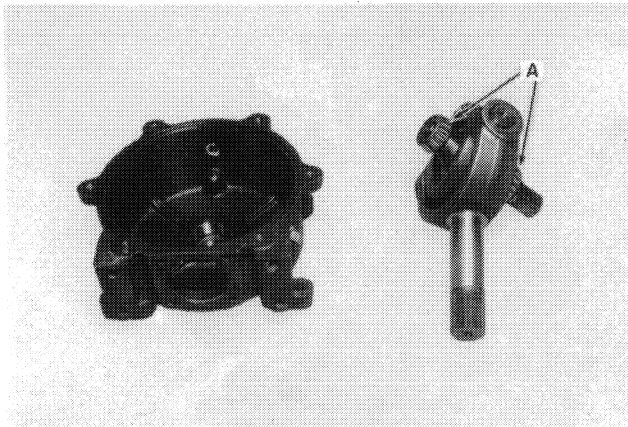

FIGURE 10
4. Lift the yoke assembly and eccentric shaft from the wobble box housing, Figure 10.
Whenever the wobble box has been disassembled, and especially if any components of the eccentric group and yoke assembly have been replaced, center the wobble shaft and properly preload the tapered bearings, A, Figure 10. Remove and clean the bearing caps, shims, and housing so correct feeler gauge measurements can be taken.